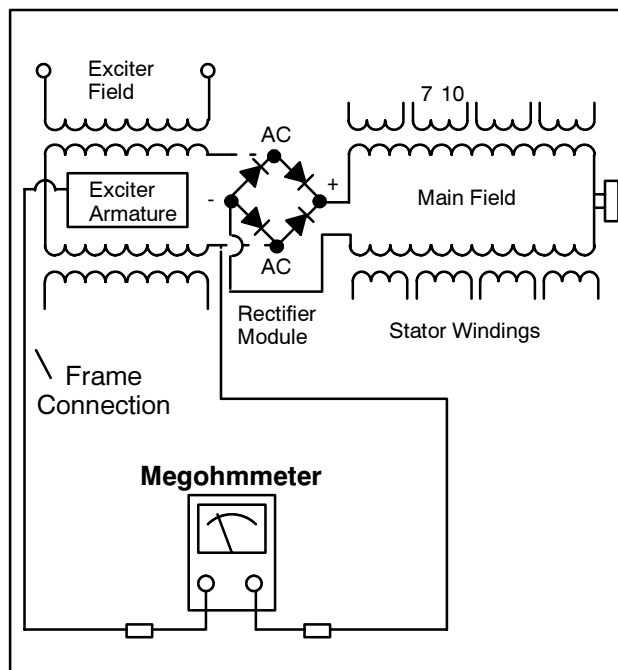

Figure 7-22. Megohmmeter Connections on Exciter Armature
3. Check exciter armature for a grounded condition. Using a megohmmeter, apply 500 volts DC to either armature lead and armature frame. (Follow the instructions of the megohmmeter manufacturer when performing this test.) See Figure 7-22. A reading of approximately 500K ohms (1/2 megohm) and higher indicates the exciter armature is good. A reading of less than 500K ohms (approximately) indicates deterioration of winding insulation and possible current flow to ground. Repair or replacement of the exciter armature is necessary.